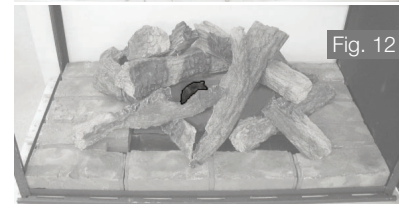

Fig. 12
- Place charcoal lump #12 onto the two pins located in the center of the burner (**FIG.12**).